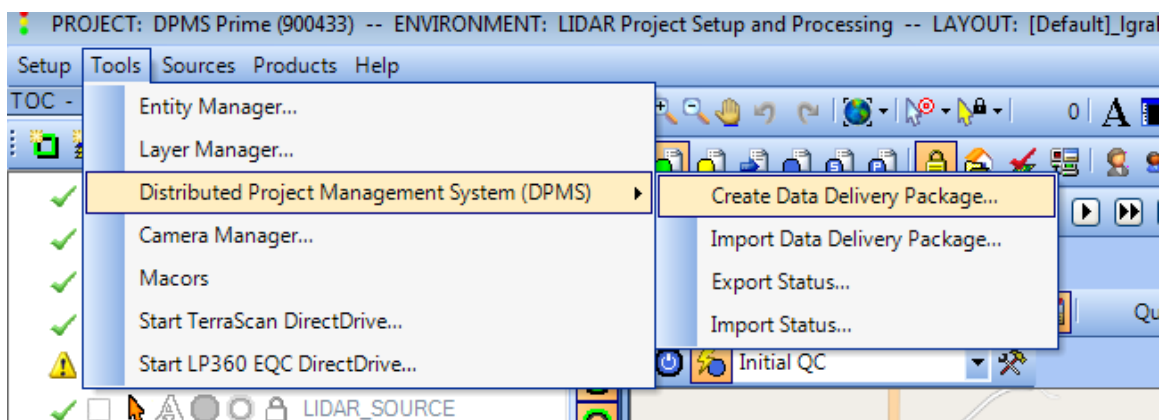

Figure 5-1: Invoking the Create Data Delivery Package dialog
2. Select the Create Data Delivery Package tool from the Tools menu (see Figure 5-1)